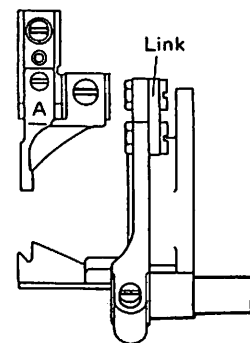

Fig. 5
(1) Make connection as shown in Fig. 5. At this time, use care for the position of link depends on the sewing machine model.